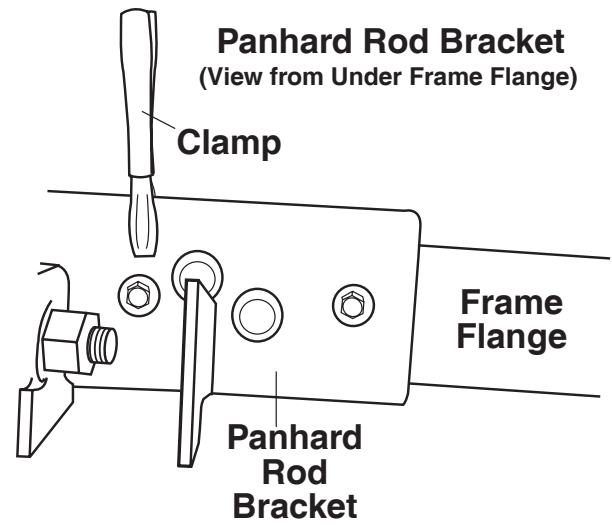

Figure 9
3. Drill two 1/2" holes in the flange using the bracket as a template (Figure 9).